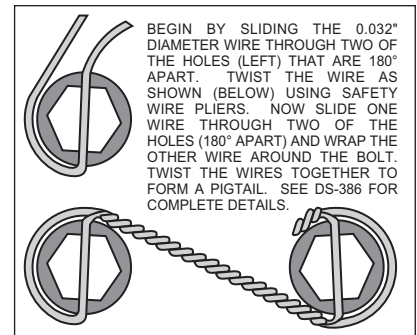

Figure 3. Safety Wire Diagram
•With the larger I.D. side of the rotor (3) facing away from the hat (4), bolt rotor (3) to hat (4) through the backside of the rotor using washers (5) and bolts (6). Torque bolts (6) to **85 in-lb**. Safety wire bolts (6) using standard 0.032 inch diameter stainless steel safety wire as shown in Figure 3. Please refer to Wilwood's data sheet DS-386 (available at www.wilwood.org/ds386.pdf) for complete safety wire installation instructions. Slide the rotor/hat assembly onto the spindle. Install a couple of lug nuts (hand tighten) to keep the rotor/hat assembly in place while continuing with the installation.
•**NOTE:** Please reference the caution statement at the beginning of the assembly instructions. With the bleed screws pointing up, mount the caliper (7) onto the caliper bracket (1) with the self locking hex nut (8), flat washer (9), through the top of the caliper and mounting stud (10) with flat washer (11) positioned between caliper (7) and caliper mounting bracket (1). Finger tighten. View the rotor (3) through the top opening of the caliper (7). The rotor (3) should be aligned in the center of the caliper (7). If not, adjust the caliper (7) by using 0.035 inch thick shims (2) placed between the spindle assembly and the caliper mounting bracket (1). Finger tighten and recheck alignment. Lubricate caliper mounting studs and nuts with lightweight oil, reinstall the caliper, torque the caliper bolts (8) to 30-35 ft-lb.
•Remove the bridge bolt from the caliper (7) and install the disc brake pads (12). Reinstall the caliper bridge bolt.